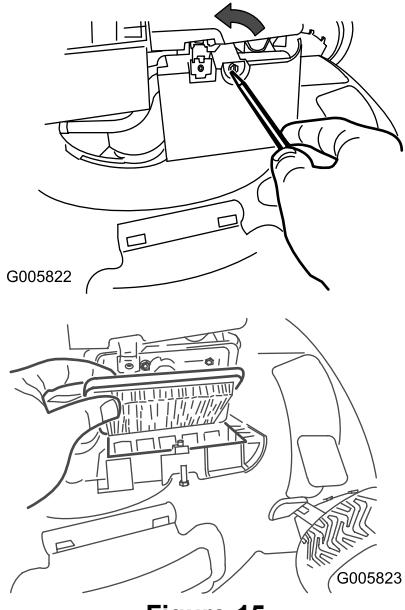

Figure 15
1. Use a screw driver to open the air filter cover (Figure 15).
2. Replace the air filter (Figure 15).